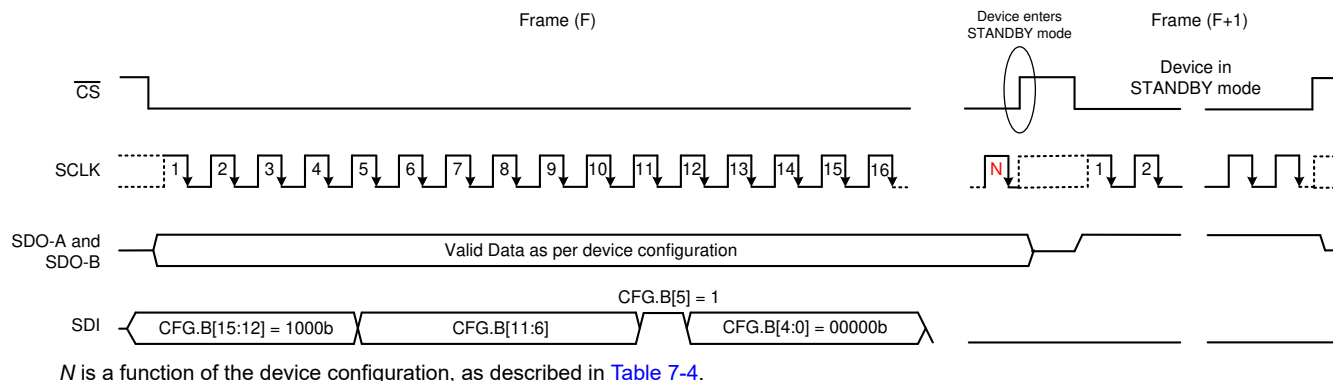

Figure 7-8. Enter STANDBY Mode
As shown in Figure 7-8, a valid write operation in frame (F) programs the configuration register with B5 set to 1 (CFR.B5 = 1) and places the device into a STANDBY mode of operation on the following \overline{CS} rising edge. While in STANDBY mode, SDO_A and SDO_B output all 1s when \overline{CS} is low and remain in 3-state when \overline{CS} is high.